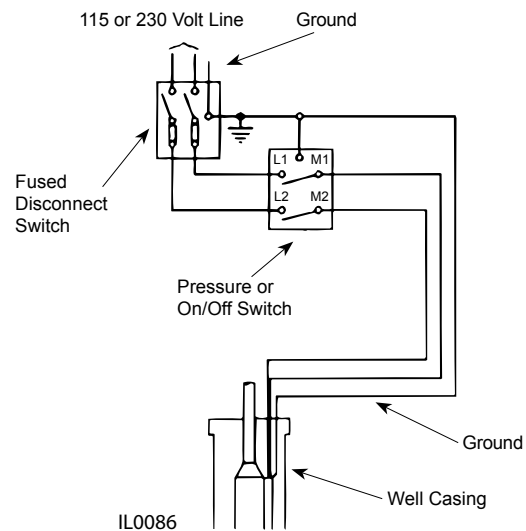

Figure 16 — 2-Wire Hook-Up
1. Simply run regular power line from electrical disconnect box to pressure switch and submersible electrical cable from pressure switch to the motor (See Figure 16).